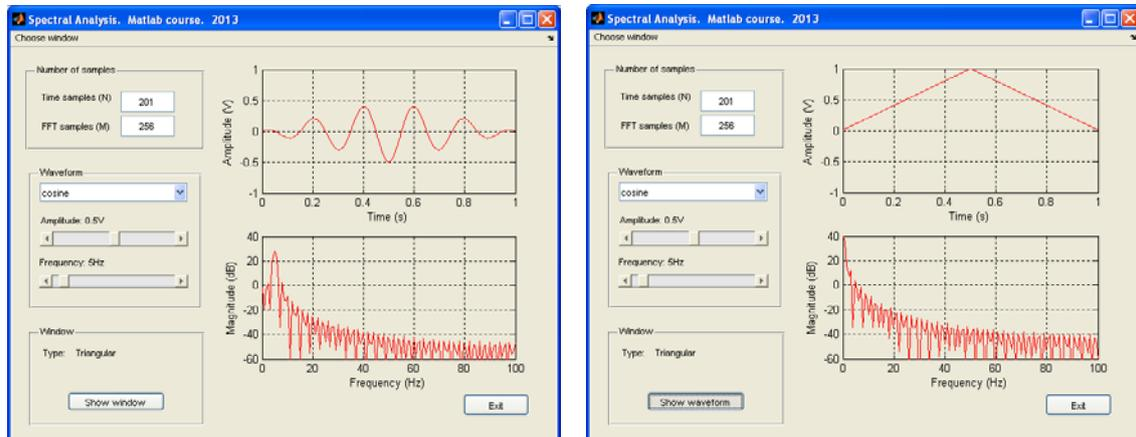

Fig. 3. Show window/Show waveform toggle button
- When this button is activated, the axes must show the waveform and spectrum of the selected window, and the String property in the button must be “Show waveform”. See Fig. 3.